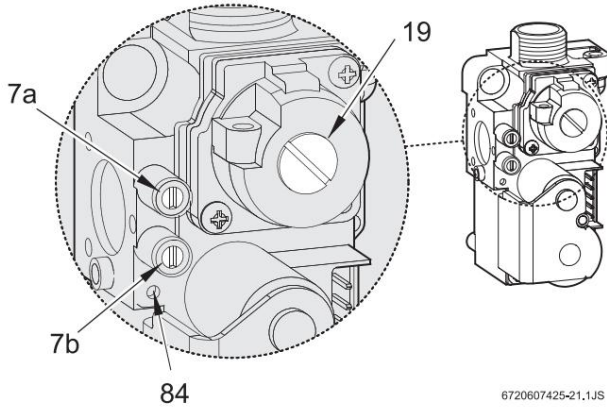

FIG. 31 Gas valve
B Remove the sealed cap of the maximum gas flow adjustment screw (19) (Fig. 31).